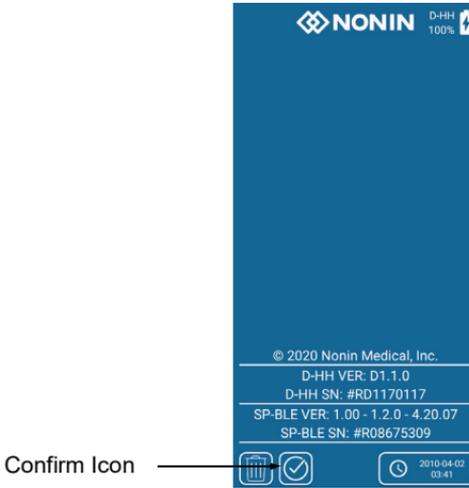

Figure 17. Data Transfer Successful
6. Data transfer is successful if the File Transfer icon has been replaced with the Confirm icon, shown as a check mark in **Figure 17**.